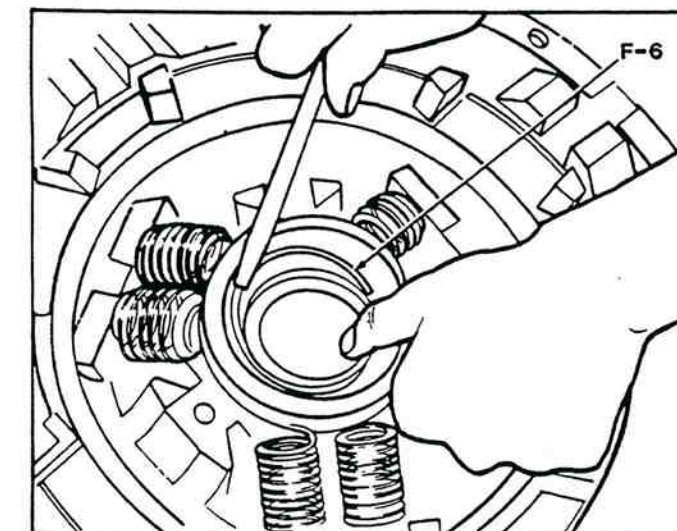

Figure 5-21. Install Retaining Ring.
8. Complete subassembly by placing retaining ring (F-6) in groove above the half-ring locks (figure 5-21).